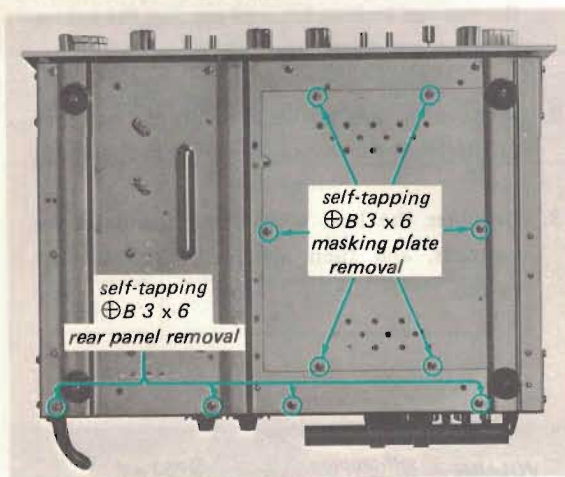

Fig. 2-14 Bottom view
2. Remove the six self-tapping screws ( $\oplus B 3 \times 6$ ) securing bottom masking plate as shown in Fig. 2-14 and then remove the mask.
4. Remove the four self-tapping screws ( $\oplus B 3 \times 6$ ) at the bottom edge of the rear panel as shown in Fig. 2-14. This frees the rear panel.